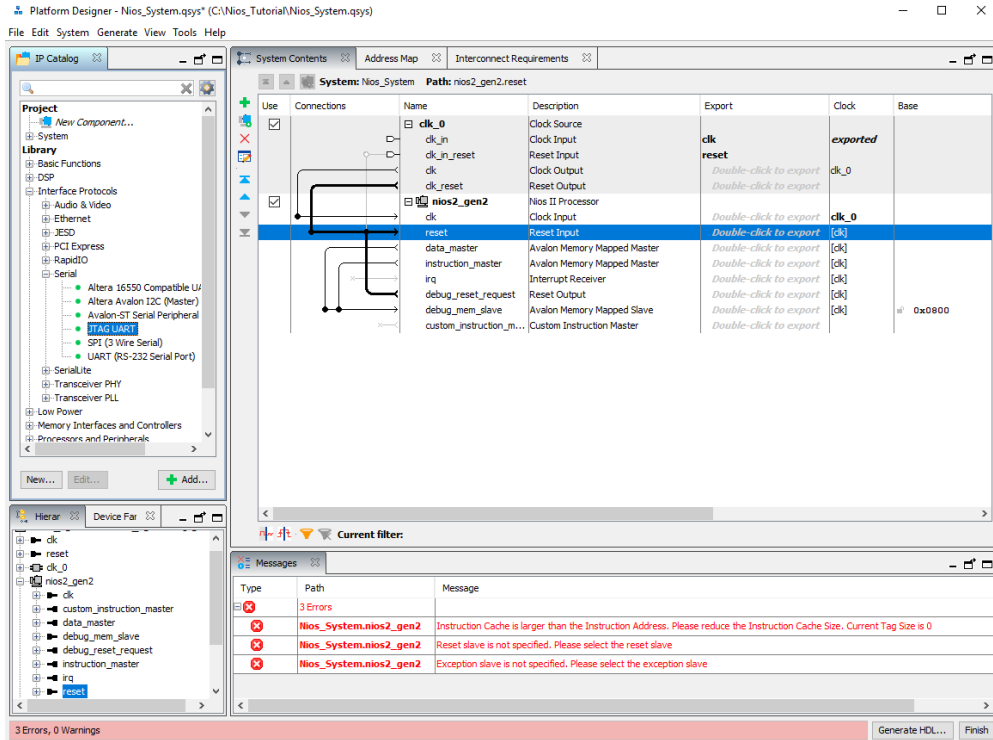

Figure 1-11 Adding JTAG UART to system
8.) Next thing we will add to our system is the **JTAG UART**. To do this go to **Library** → **Interface Protocols** → **Serial** → **JTAG UART** as shown in Figure 1-11 and 1-12.